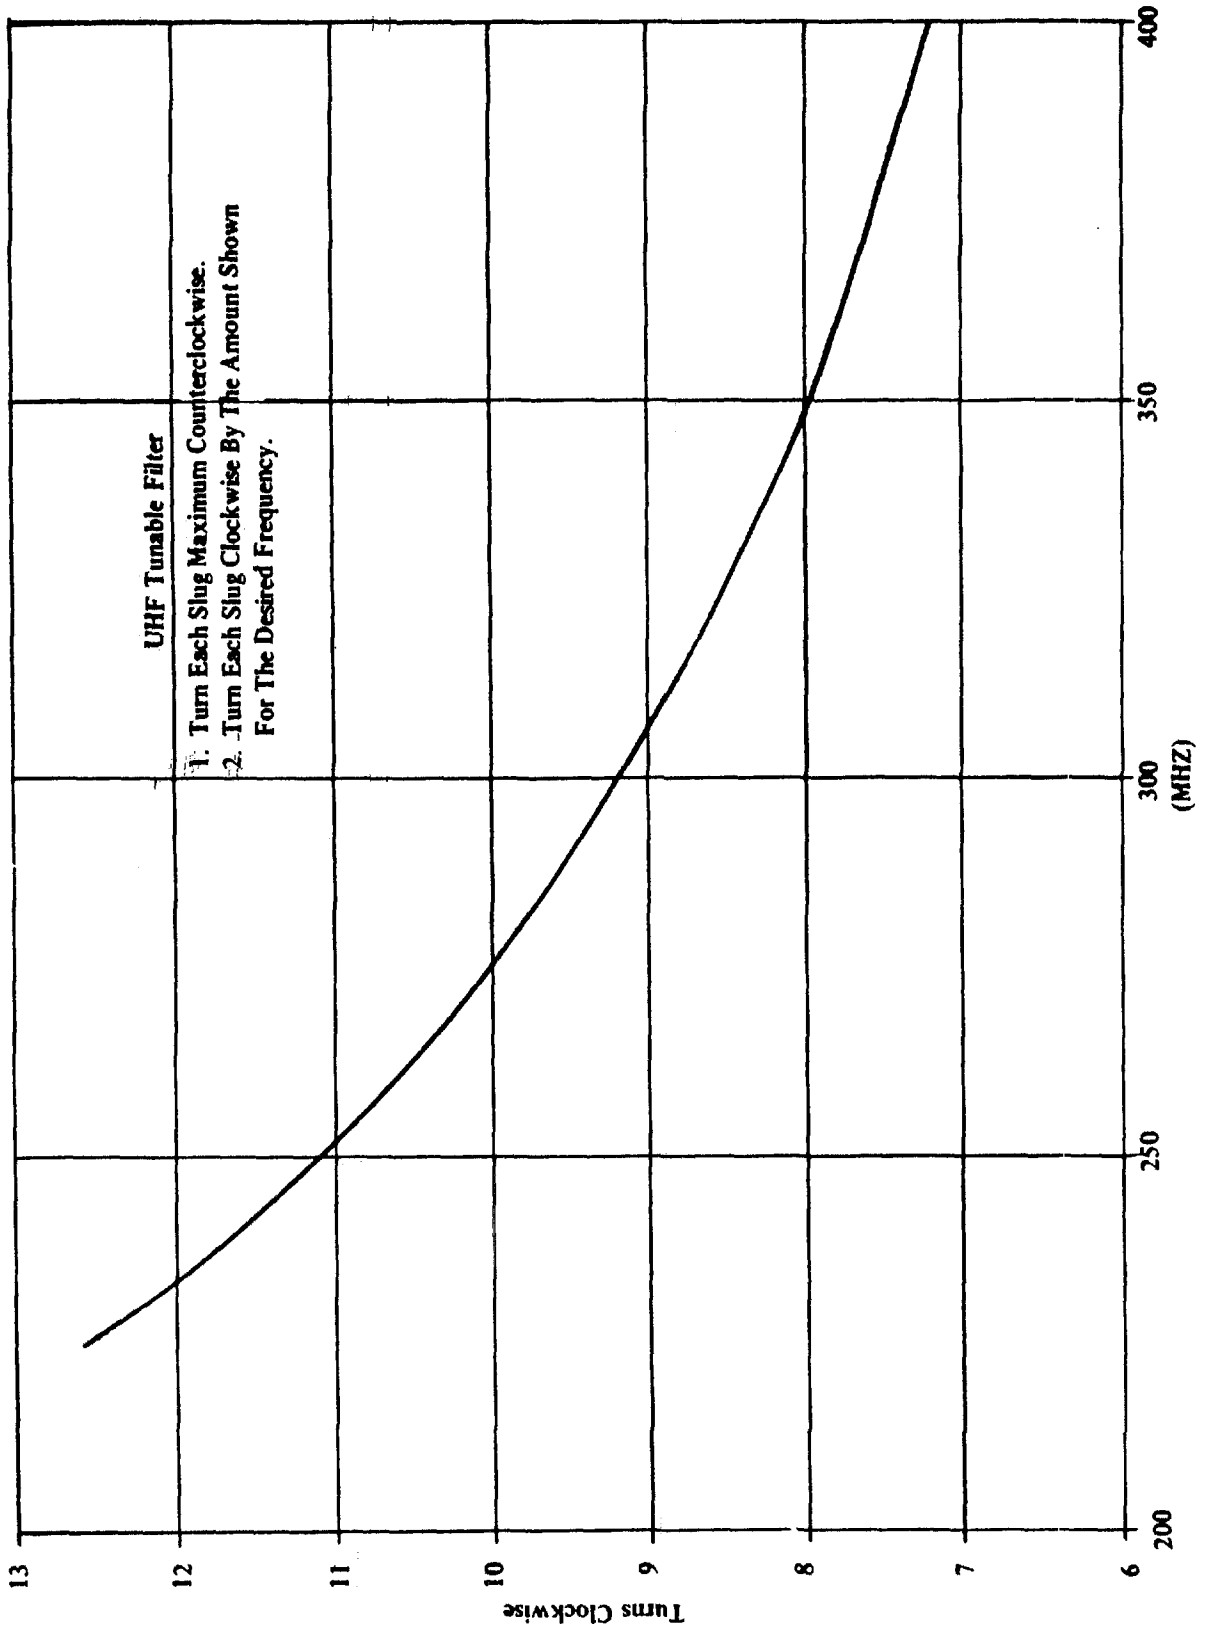

Figure 3-2. UHF Tunable Filter Turns Versus Frequency
- a. Align the tunable filter to the operating frequency (see Figure 3-2 or Figure 3-3 as appropriate).
b. Refer to Figure 3-2 for setting the tunable filter IN and OUT controls and carefully adjust each as indicated.
For initial adjustment of the tunable filter In and Out controls, refer to Figure 3-2. Carefully adjust each as indicated.